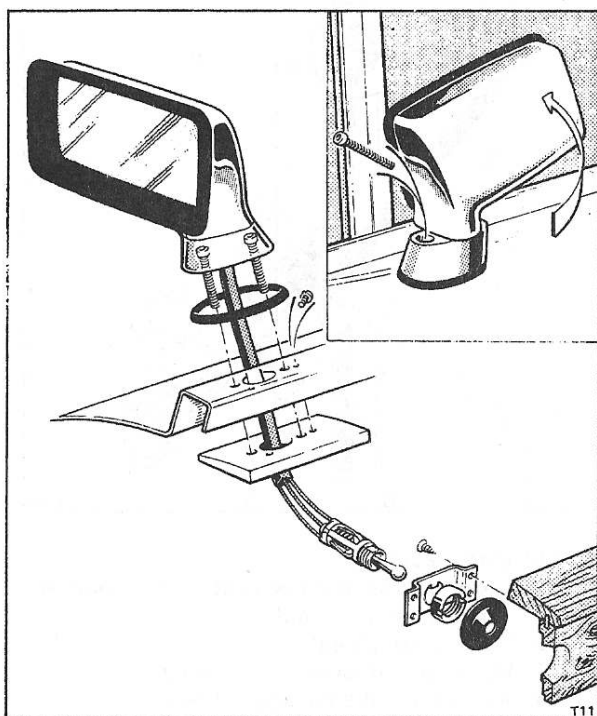

Fig. S20 Exterior door mirror (Silver Shadow II, Bentley T2, Silver Wraith II and Corniche)
**Exterior door mirror - To remove (see Fig. S20)
Silver Shadow II, Bentley T2, Silver Wraith II and Corniche (see Fig. S20)**